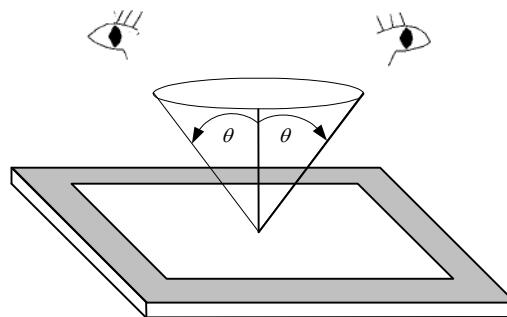

Fig 12.1
- The viewing zone is defined with angle θ shown in Fig. 12.1. The inspection should be performed within 45° when display is shut down. The inspection should be performed within 5° when display is power on.